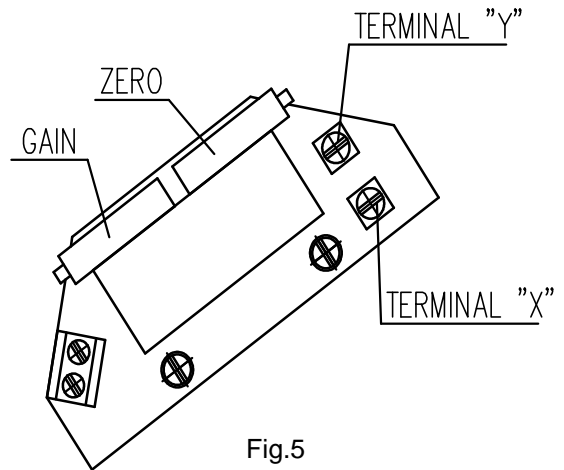

Fig.5
4.4.1 EPV – the 2-wire version (Fig. 5,5a)
- Adjust the resistive transmitter according to the previous chapter. The resistance is to be metered on the terminals X-Y, resp. R-R (Fig. 5,5a). The used transmitter resistance is 100 Ω.